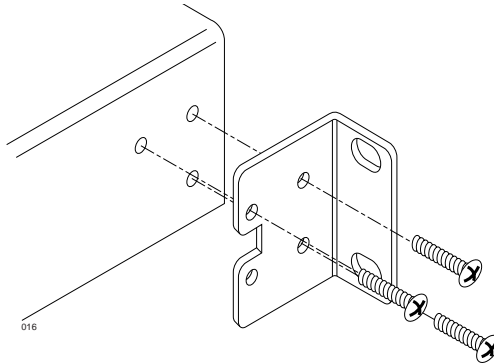
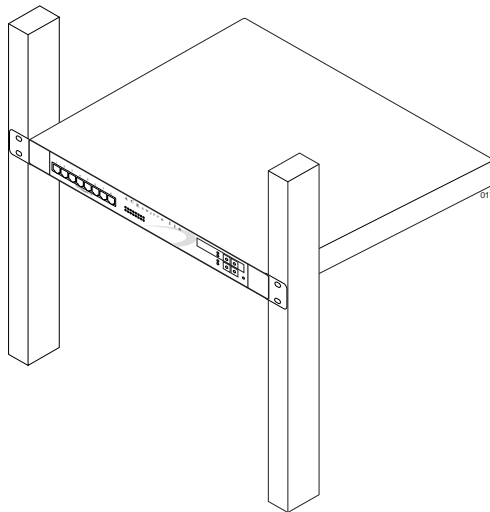

Figure 2-1 Position Mounting Brackets for Rack Mount
Figure 2-2 Rack Mounted ACEswitch 110
- To mount the unit into an equipment rack, connect the two mounting brackets to the switch using the supplied screws as shown in Figure 2-1, and install the switch as shown in Figure 2-2 using the appropriate screws for your rack-mount system (four 10-32, 12-24, M5X8-6H, or M6X1-6H type screws).